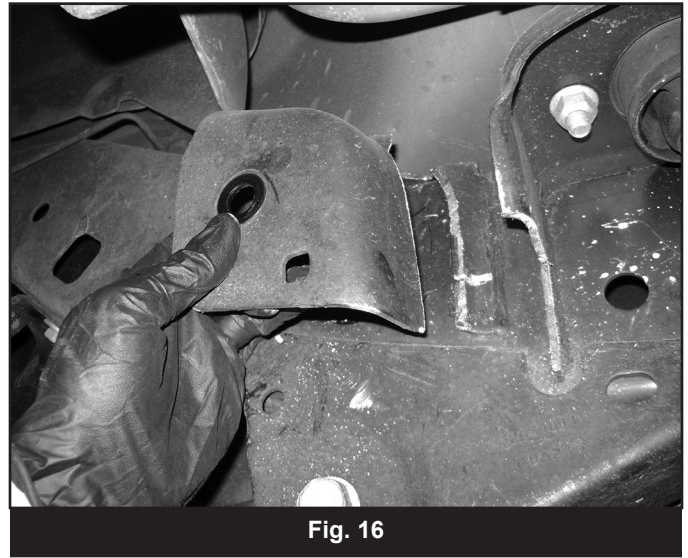

Fig. 16
8. Remove the upper control arm pocket from the frame with a sawzall. Trim 1/4"-1/2" away from the frame all of the way up. (Figure 16, 17)